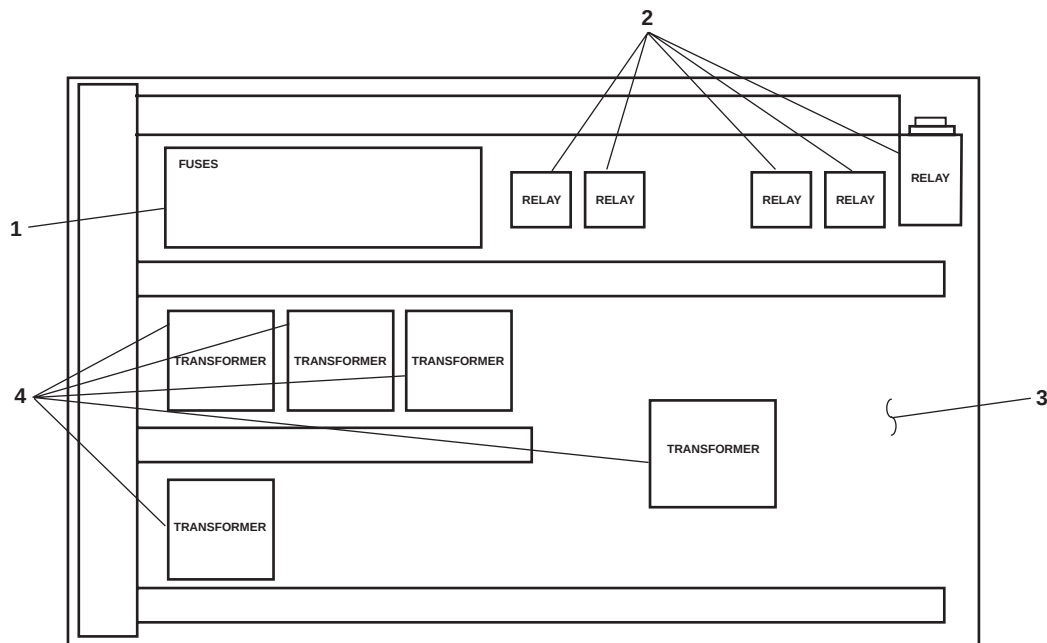

Figure 3. Emergency Switchboard Back Panel Layout
2. Use a multimeter to check for voltage at the fuse(s) (figure 3, item 1). If voltage is present, ensure that the proper engine fuel oil valves have been secured, locked out, and tagged out (FM 55-502). If no voltage is present, continue with the procedure.
3. Using a fuse puller, remove the fuse(s) (figure 3, item 1) from the fuse holder(s).
1. Using a fuse puller, install the fuse(s) (figure 3, item 1) in the fuse holder(s).
2. Use a multimeter to check for voltage at the relay(s) (figure 3, item 2). If voltage is present, ensure that the proper engine fuel oil valves have been secured, locked out, and tagged out (FM 55-502). If no voltage is present, continue with the procedure.
3. Label and disconnect the electrical wiring attached to the relay (figure 3, item 2).
4. Remove the relay (figure 3, item 2) from the emergency switchboard (figure 3, item 3).
1. Install the relay(s) (figure 3, item 2) in the emergency switchboard (figure 3, item 3).
2. Connect the electrical wiring to the relay (figure 3, item 2) using the labels from step 3 of Removal as a guide. Remove the labels.
2. Use a multimeter to check for voltage at the transformer (figure 3, item 4). If voltage is present, ensure that the proper engine fuel oil valves have been secured, locked out, and tagged out (FM 55-502). If no voltage is present, continue with the procedure.
3. Label and disconnect the electrical wiring to the transformer (figure 3, item 4).
4. Remove the associated mounting hardware from the transformer (figure 3, item 4).
5. Remove the transformer (figure 3, item 4) from the emergency switchboard (figure 3, item 3).
1. Install the transformer (figure 3, item 4) with the associated mounting hardware in the emergency switchboard (figure 3, item 3).
2. Connect the electrical wiring to the transformer (figure 3, item 4) using the labels from step 3 of Removal as a guide. Remove the labels.